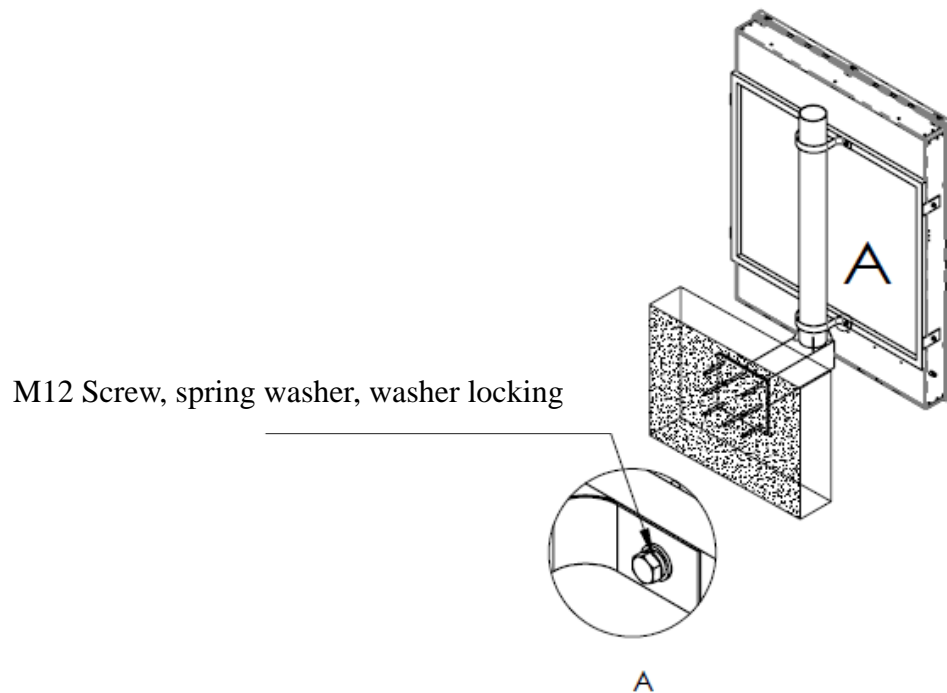

Figure 3.2.8
- Fix the box on the bracket with hoop (Figure 3.2.8).